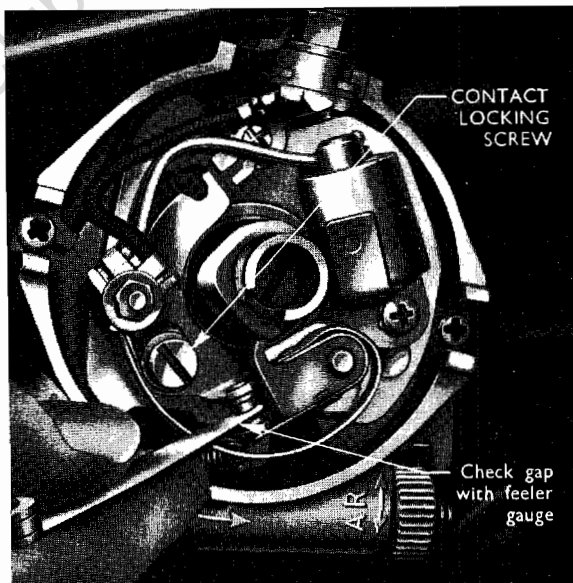

Fig. 2
3. Slacken the one locking screw and by means of the slot in the end of the adjustable contact bracket, adjust the points gap to 0.014 to 0.016 in. (0.356 to 0.406 mm.) (see Fig. 2). If necessary, align the breaker points to make full face contact by bending the adjustable contact bracket. Do not bend the breaker arm.